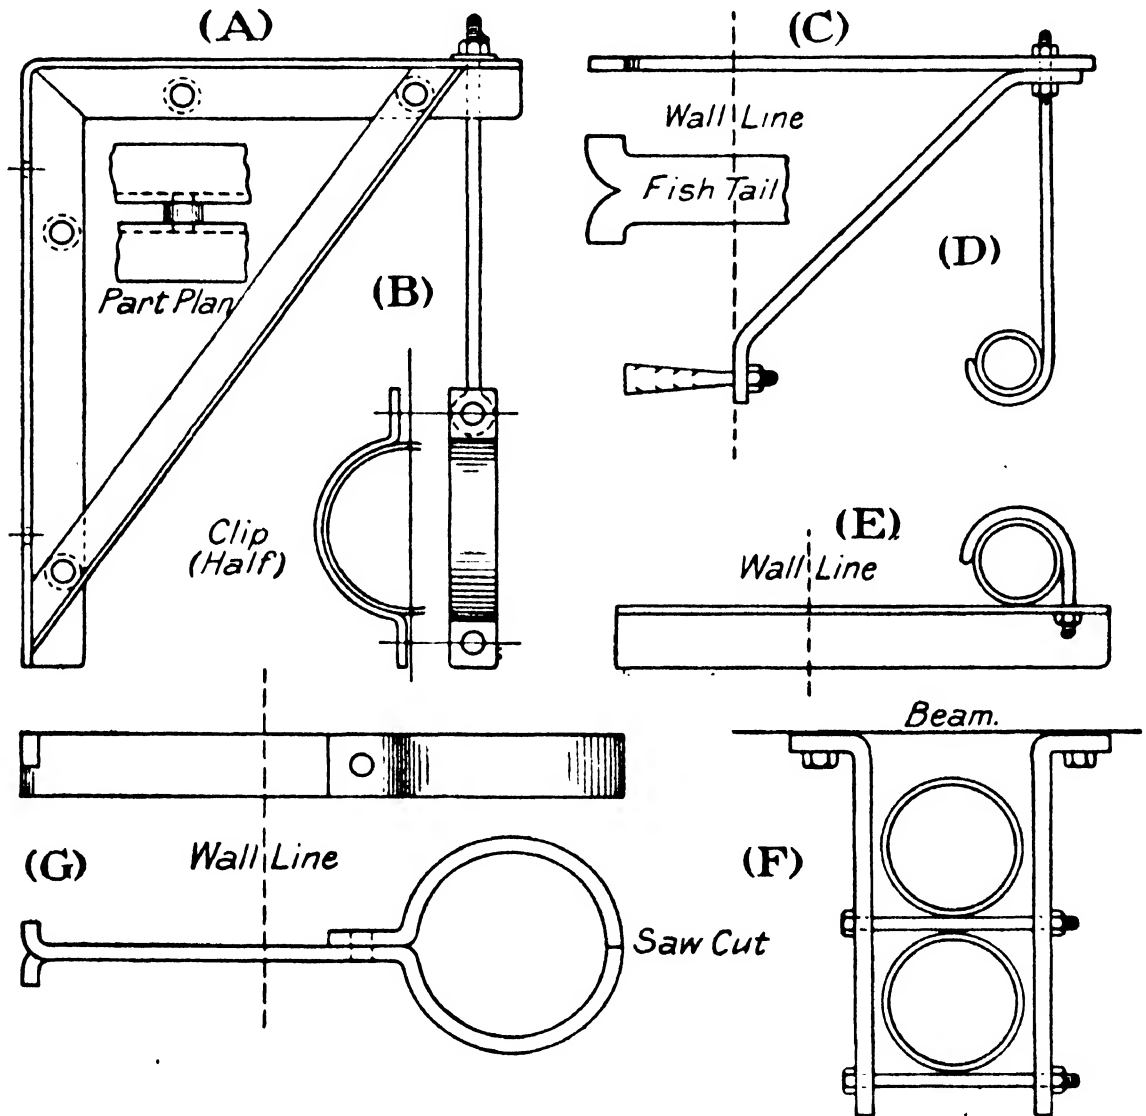

FIG. 105.—Some Pipe Clips and Suspenders.
**Clips and Suspenders.**—On every pipe line a number of clips and suspenders in various forms will be required. These have in many cases to be made from sketches and particulars taken on site, and, of course, there will generally be a miscellaneous assortment. Wherever possible the hangers and clips should be put in hand immediately the job is commenced, so that the temporary slings may be replaced as soon as time permits. There are many standard patterns in pipe-clips on the market, but when these are specified they usually fail to work in, as unforeseen modifications will crop up. In actual practice the better way is to leave all clips and hangers until one is sure that they can be used, for it generally happens on a contract of any size that there is a great heap of useless ones left after the services are completed. In some cases it is safe to anticipate requirements by ordering clip-bands, leaving the suspending rods until the length is decided; even then a good margin of latitude should be allowed for adjustment, as no pipe line should be truly horizontal. The sketch (Fig. 105) shows an assortment of simple designs in clips and supports, and selection can be made from these to suit most conditions. They are all of wrought iron or steel and can be made in the workshop.